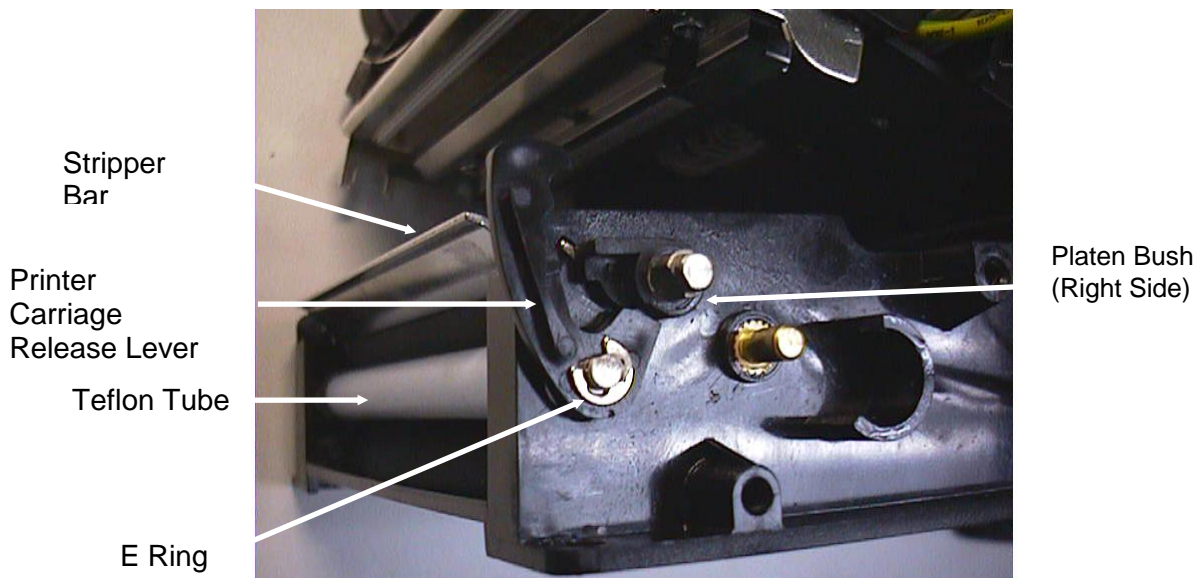

Fig. 4.17 Printer carriage release lever arm and E ring
21. Remove the stripper bar. (Fig. 4.17)